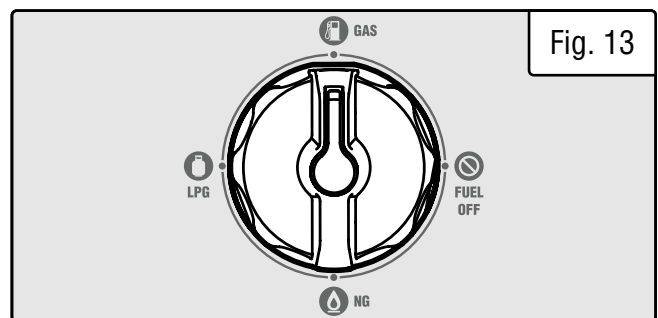

Fig. 13
3. Turn the fuel selector switch (Fig. 13) to the desired fuel (gasoline, propane, or natural gas). Check that there is adequate supply of the selected fuel (see “Add / Check Fuel”).
1. Turn the fuel selector switch (Fig. 13) to the GAS position.
1. Turn the fuel selector switch (Fig. 13) to the desired fuel (LPG or NG).